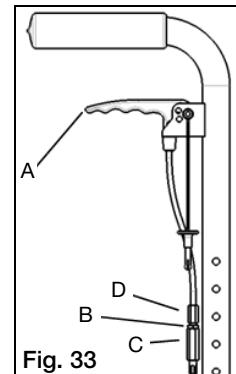

Fig. 33
- Squeeze trigger (Fig. 33:A).
- Unlock jam nut (Fig. 33:B) from cable adjuster body (Fig. 33:C) using a 10mm and 3/8" open ended wrench.
- Thread cable adjuster (Fig. 33:D) in or out until slack in cable is eliminated but also such that the cogs are still fully seated in the teeth of the rotary frames.